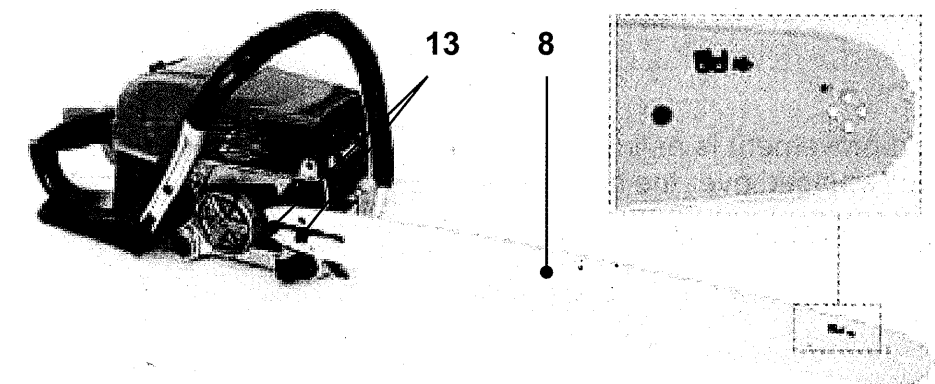

Fig. 2
4. Place the slot in the guide bar (8) over the bolts (13). Ensure to fit the guide bar with the saw chain 'cutter' symbol at the top of the bar (Fig. 2).